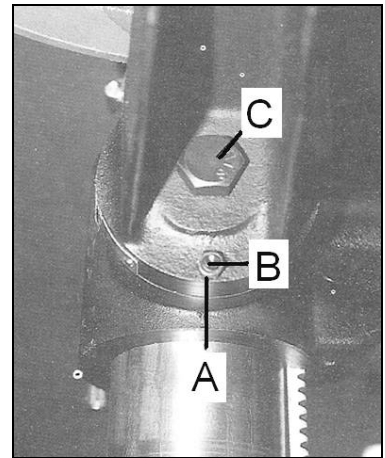

Fig 12
Remove the alignment pin (B, Fig 12) first by turning the nut (A) clockwise.